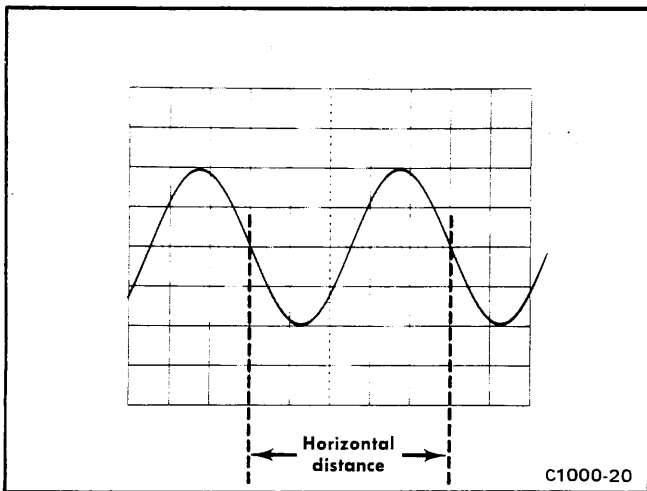

Figure 1-4. Measuring time duration (period) between points on a waveform.
2. Set the time-base triggering controls to obtain a stable display. Set the Seconds/Div switch to the fastest sweep rate that will permit displaying one cycle of the waveform in less than eight divisions (some nonlinearity may occur in the first and last graticule divisions of the display). Refer to Figure 1-4.